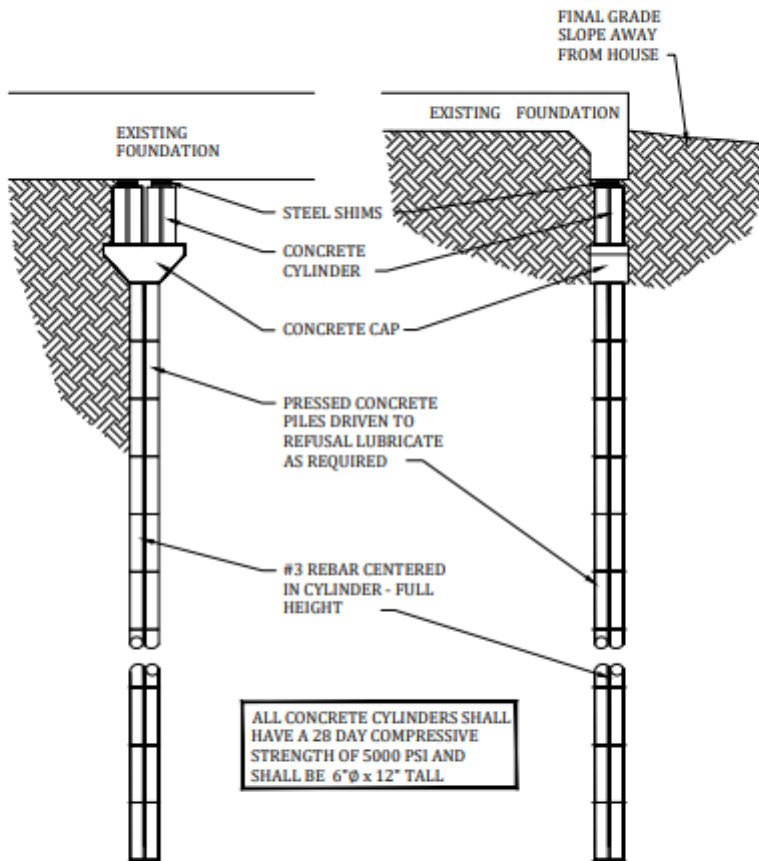

FIGURE 6
1. To stabilize and lift the foundation, install 7 perimeter and 18 interior piles/piers as shown on Figures 1 through 5. The underpinning may be concrete cylinders, steel pipe, helical screws, or drilled concrete piers – refer to Figures 6 through 9. Underpinning will not improve the performance of the foundation in non-underpinned areas. Note, any foundation movement, even corrective, can cause additional cosmetic distress. The contractor shall determine the amount of elevation correction needed based on the reaction of the structure during the adjustment in order to minimize stress and additional cosmetic damages.